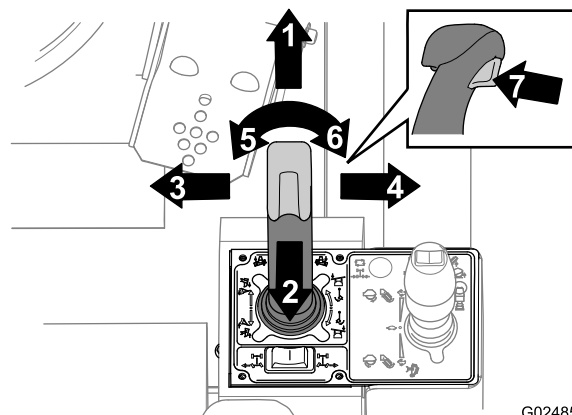
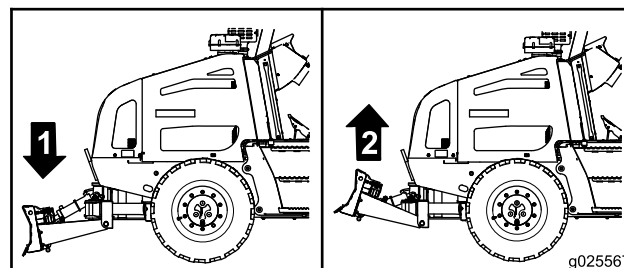
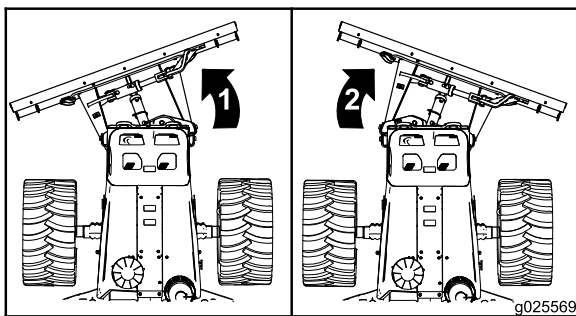
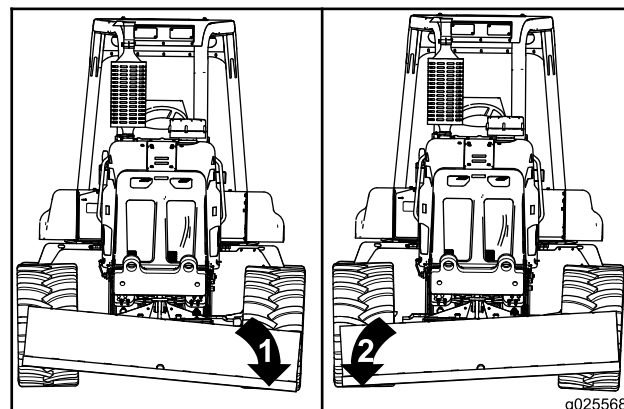

Figure 47
Figure 48
Figure 49
Figure 51
2. Slowly raise and lower the backfill blade by moving the right joystick rearward and forward (Figure 47 and Figure 48).
4. Pivot the blade fully right by pressing the right-thumb control (Figure 47 and Figure 49).
- A. Lower the backfill blade to the ground by moving the right joystick forward (Figure 47).
- G. Slowly turn the backfill blade left and right by pressing the left and right-thumb controls (Figure 47).
6. Slowly tilt the backfill blade down at the left side and then down at the right side by twisting the right joystick clockwise and counterclockwise (Figure 47 and Figure 51).